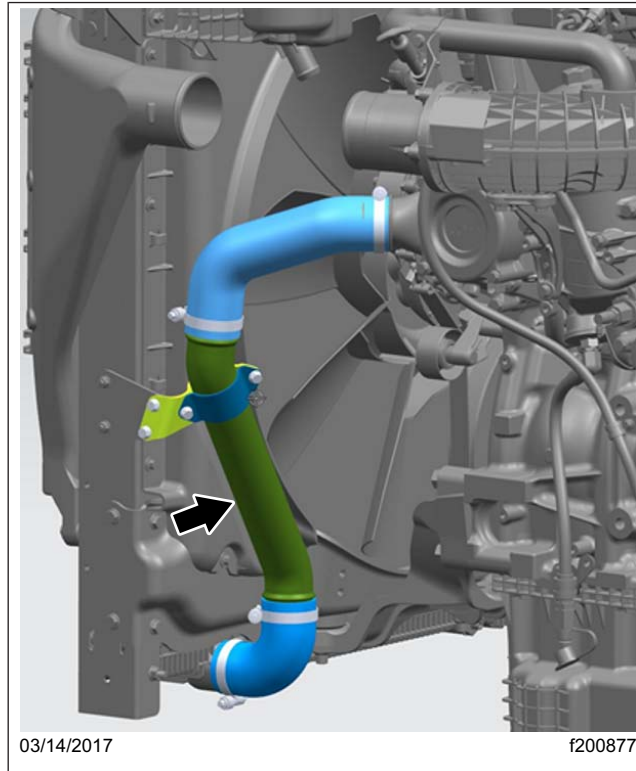

Fig. 6, Lower Radiator Hose
14. Remove the lower radiator hose. See Fig. 6.
11. Install the lower radiator hose. See **Fig. 6**.